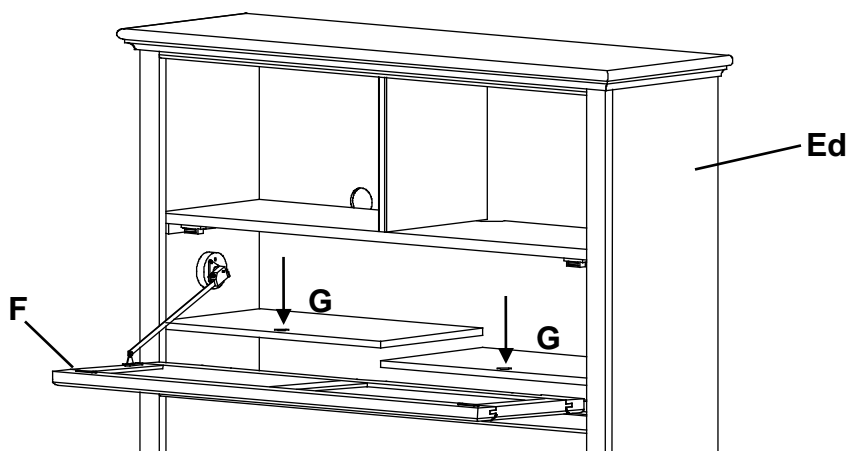

Fig. 15
15. Unwrap the False Bottoms (G) and place them on top of the rails in the Headboard Assembly (Ed). Make sure the finger holes face forward as shown in Figure 15. After you have placed your electronics inside the cubbies, use the Wire Clips (J) on the underside of the cubbies to secure the wires. Close the door tightly making sure the magnetic catches and plates securely touch.